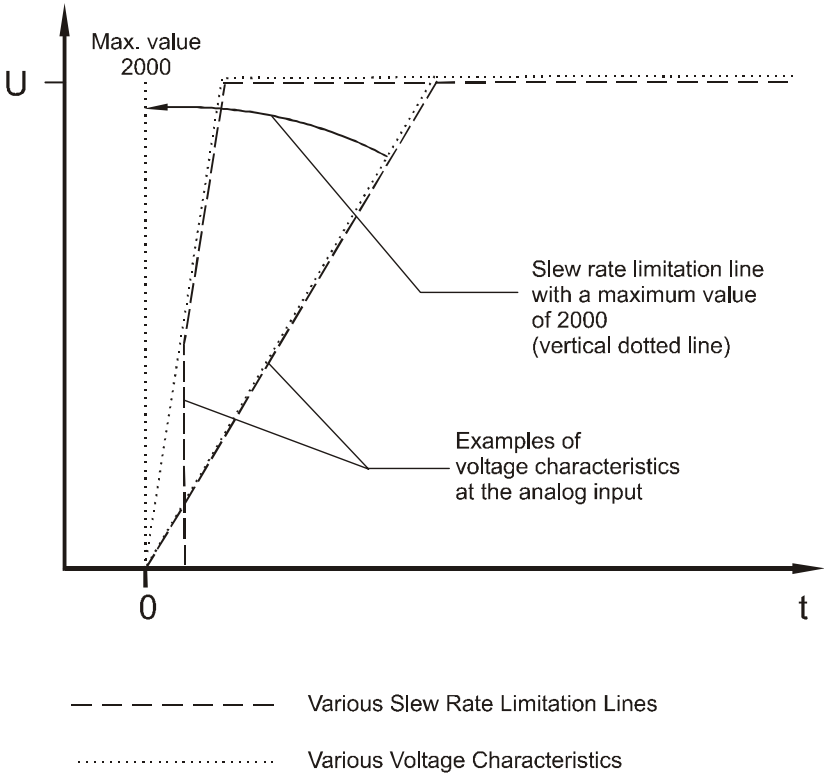

Fig. 26: Slew Rate Limitation for AD Conversion
*) Register 2920 specifies as a multiple of 1 digit/ms (which equals to approx. 10 mV/ms) the slew rate limitation of the voltage input for AD conversion. However, only values from 2 to 2000 are practicable. Values above 2000 have no further effect on slew rate limitation for AD conversion. For additional information refer to fig. 26, page 122.